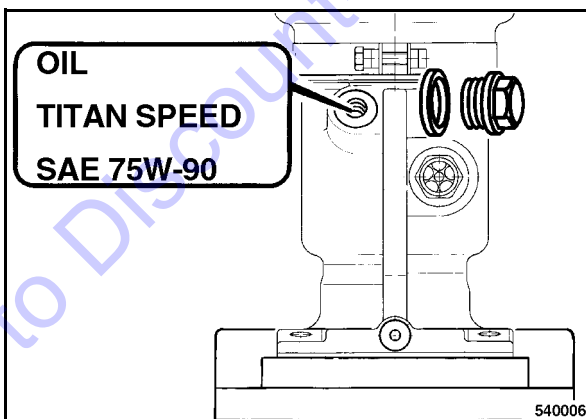

Fig. 54
- Clean the filler plug (Fig. 54) and unscrew it.